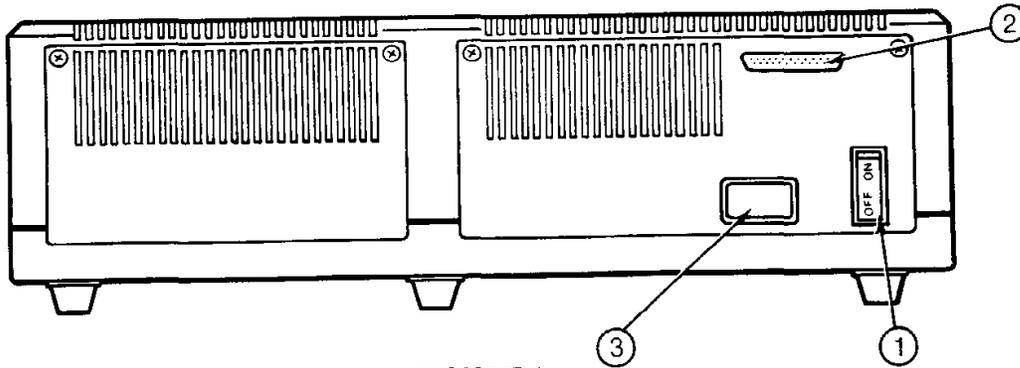
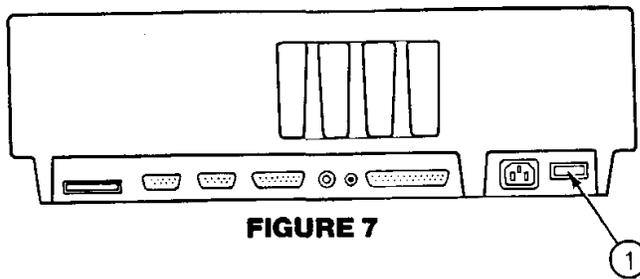

FIGURE 6
FIGURE 7
14. Before connecting any cables, make sure that the power switch on the back of the ProFile is off. (Figure 6, Item 1). The power switch on the back of the Apple III should already be off. (Figure 7, Item 1).
17. Attach the other end of the cable securely to the D-type mating connector on the back of the ProFile cabinet. (Figure 6, Item 2).
18. Connect the mating plug on the power cord onto the recessed 3-pin AC power connector on the back of the ProFile cabinet (the plug can go on in only one direction). (Figure 6, Item 3).